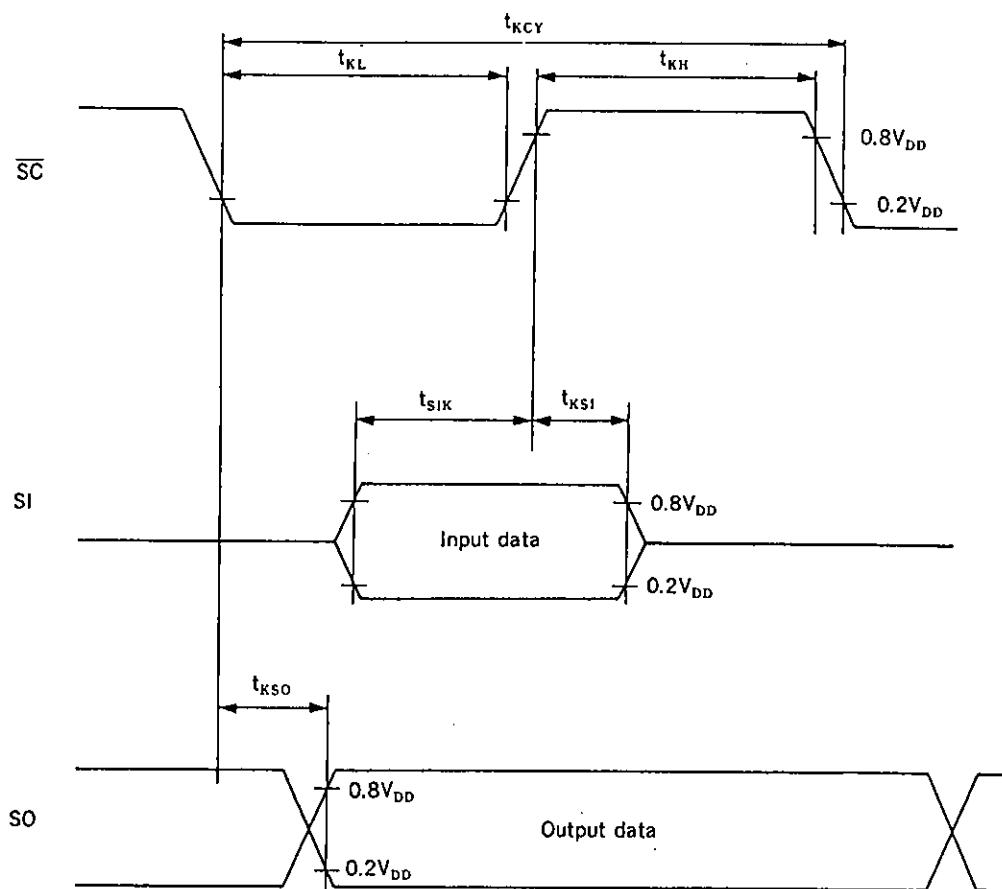

Fig. 5 Serial transfer timing
The graph in Fig. 5 shows the relationship between power supply voltage V_{DD} and reference voltage V_{REF} of the power supply voltage detection reset function.
- Note)** The graph in Fig. 5 serves as guide to the function operation area obtained using average devices.